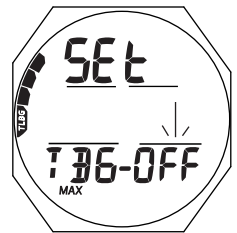

Fig. 43 - SET TLBG ALARM
**Set TLBG Alarm**, information includes (Fig. 43):